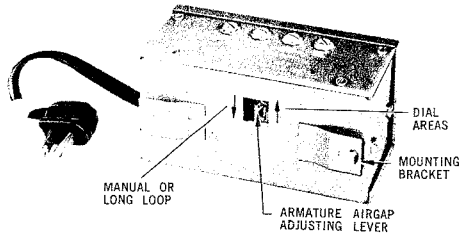

Fig. 5 - NS-16301, List 7 Relay
3.09 The NS-16301, List 15 Relay is provided with two sensitivity terminals designated "HI" and "LO". The superseded NS-16301, List 7, which may be substituted, had an armature airgap adjustment located on the bottom. (See Fig. 5.)